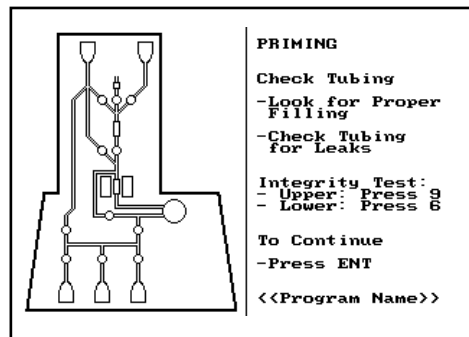

Figure 21: Screen no. 12.
The window will display screen no. 12 as shown in figure 21.
1. When the operator performs "Final check of all tubing and attachments" the window displays screen no. 12 as shown in figure 21.
7. After 2 minutes the pressure is automatically released, and the window displays screen no. 12 as shown in figure 21.
1. The window displays screen no. 12 as shown in figure 21.
6. After 30 seconds the pressure is automatically released, and the window displays screen no. 12 as shown in figure 21.